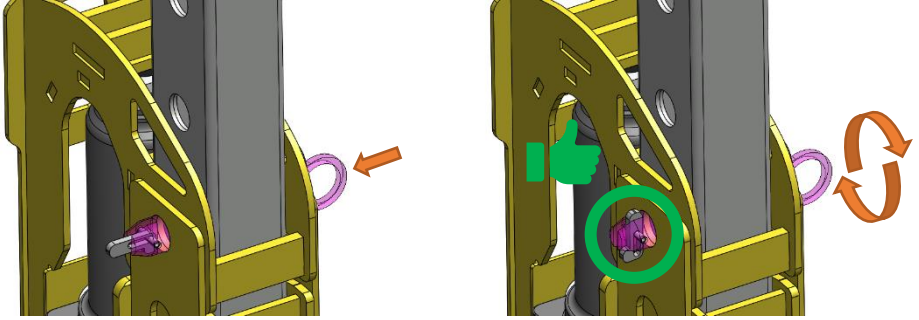

Figure 4 Fastening the locking pin.
4. Insert locking pin through the climber unit and tube, see **Figure 4 & 5** for reference
NOTE! Never leave load on bottle jack! When lifting / lowering is done make sure to insert main locking pin through climber unit's top hole! See figure 4.